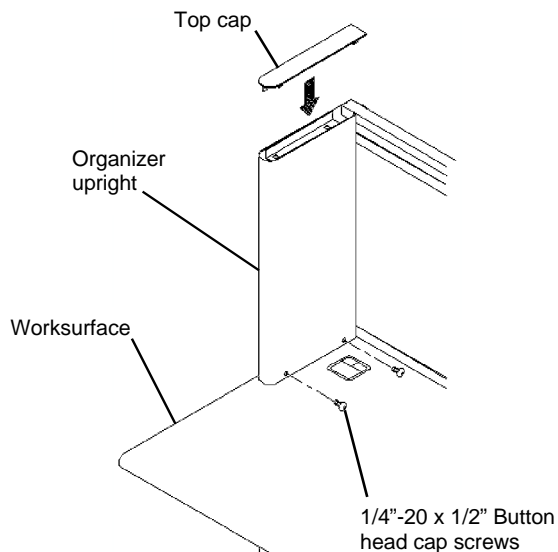

Figure 5
Secure the Uprights to the Mounting Brackets with the four 1/4"-20 x 1/2" Button head cap screws provided. Tighten the screws with the 5/32" Allen wrench. See **Figure 5**.
4. Install the two **Top Caps**. See **Figure 5**.